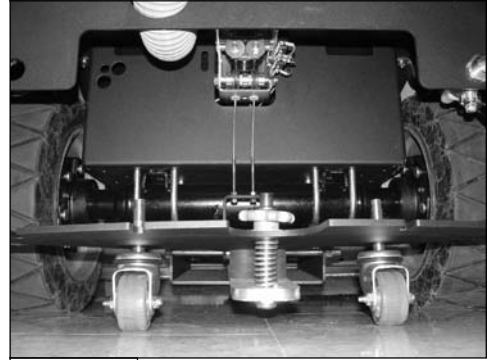

FIGURE 18.
1. CASTERS DETERMINE THE RIDE HEIGHT & AMOUNT OF BLADE DEFLECTION. NOTE:DIFFERENT SQUEEGEE MATERIALS (GUM, LINATEX,NEOPRENE) MAY REQUIRE DIFFERENT RIDE HEIGHTS. (SEE FIGURE 18.)